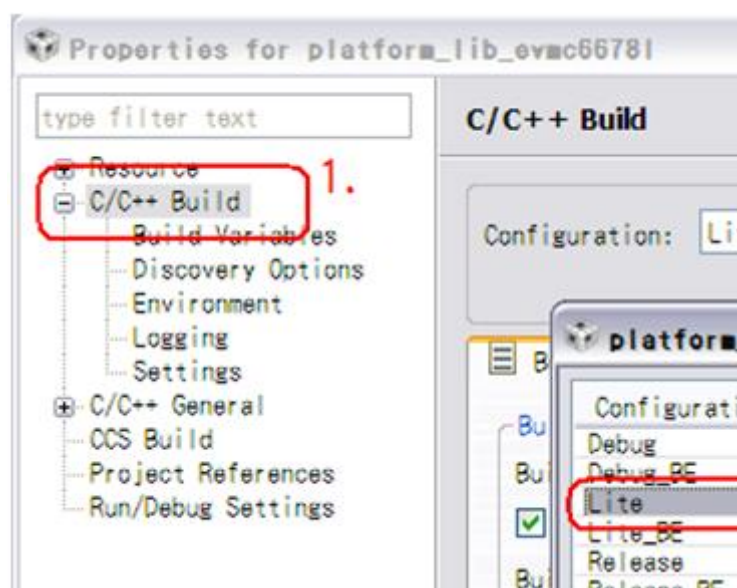
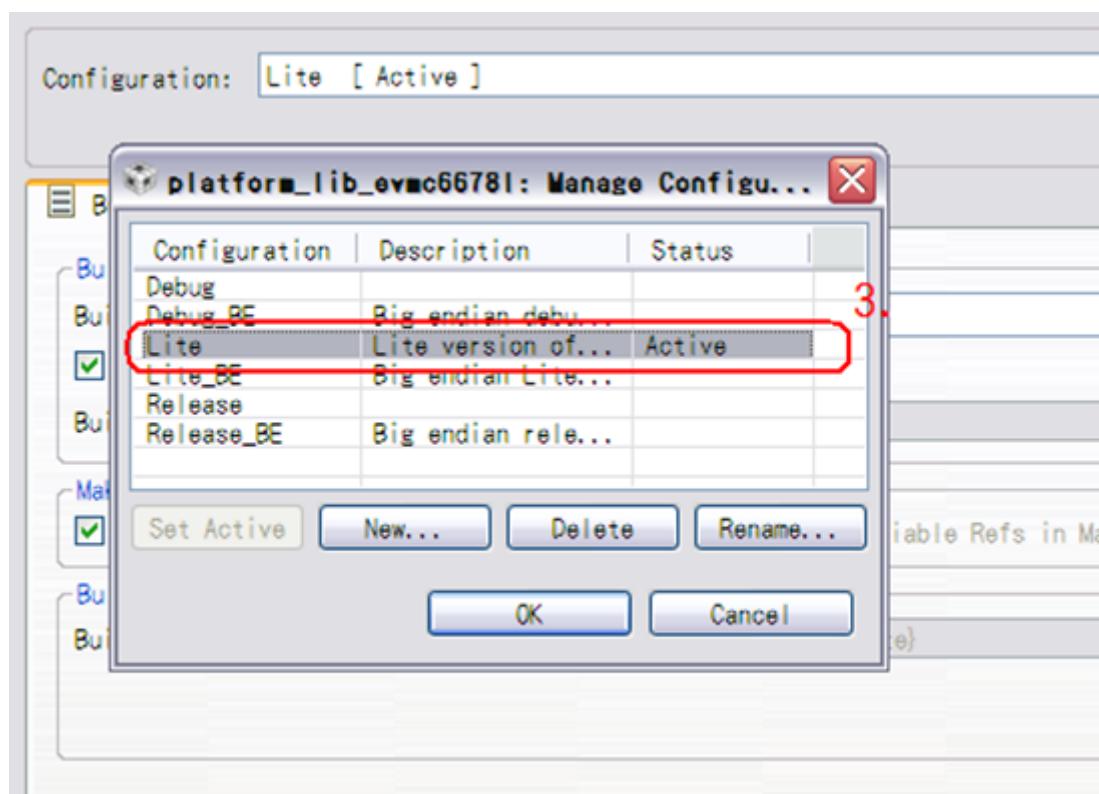

Figure 5-1 Select Lite as Active Configuration (Step 1)
Figure 5-3 Select Lite as Active Configuration (Step 3)
2. Refer to Figure 5-1 ~ Figure 5-3 and select "Lite" as active configuration (in CCSv5, Project->Properties)